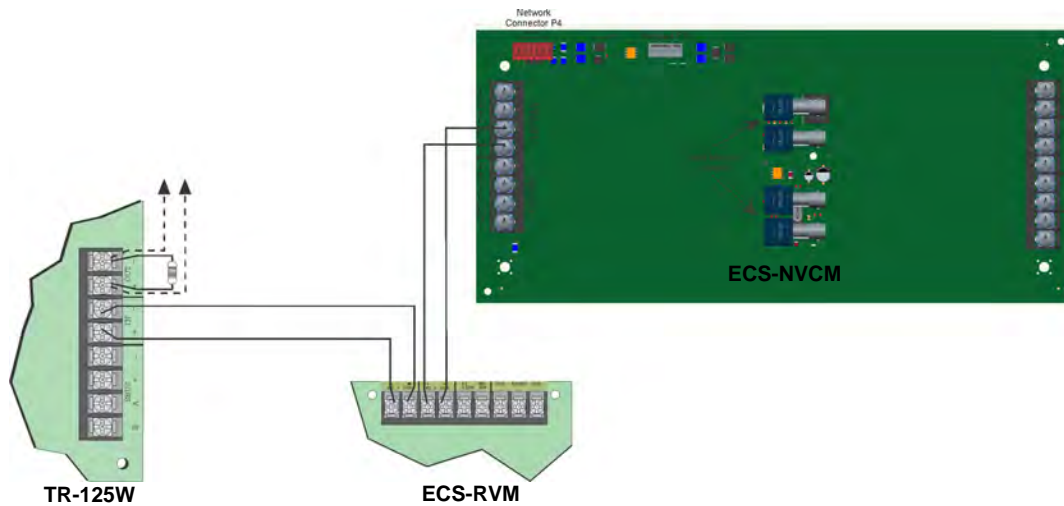

Figure 4.57 VBUS and TR-125W Wiring for ECS-RVM using the ECS-NVCM
5. Connect the ECS-RVM to the VBUS, TR-125W, and ECS-NVCM. See Figure 4.57.